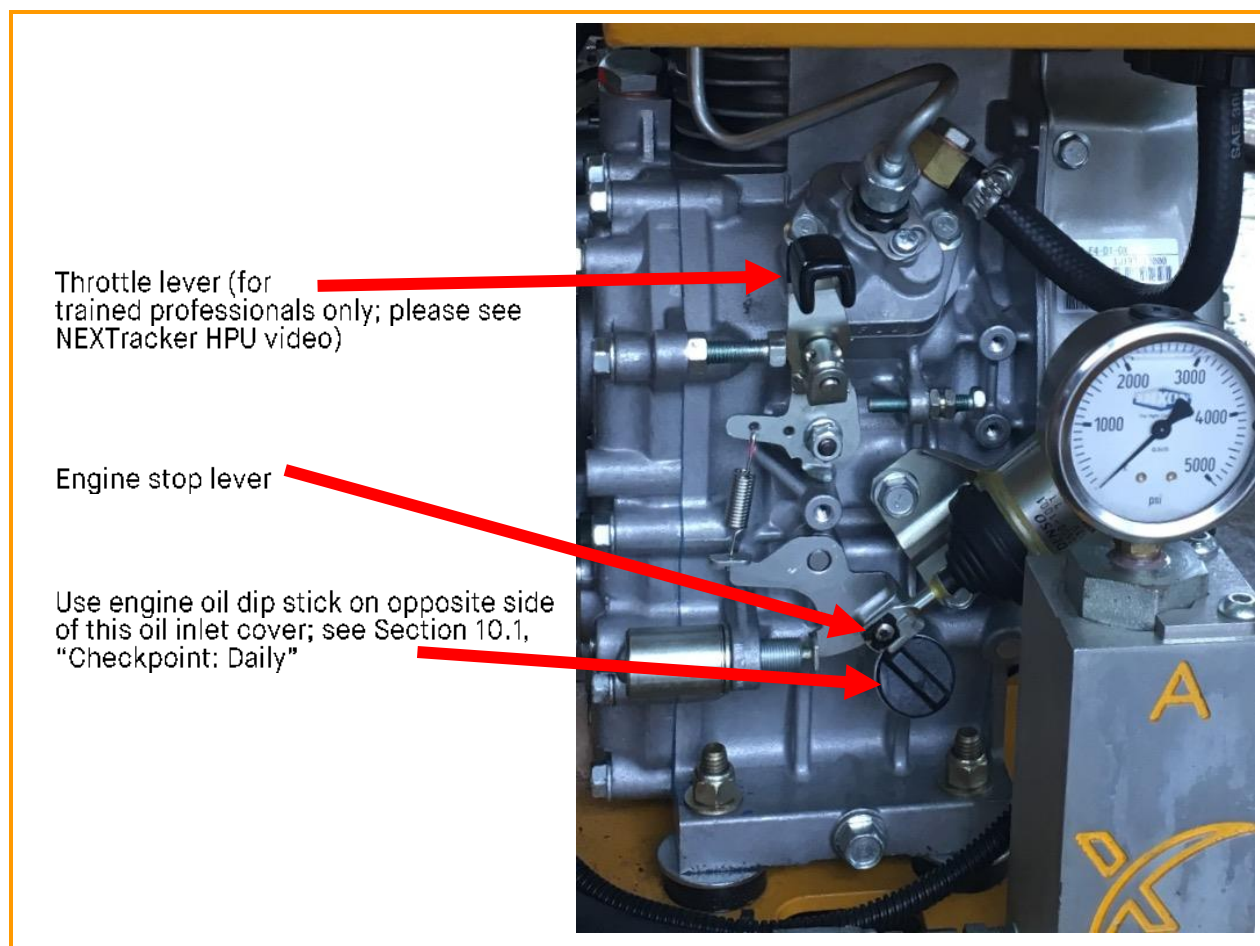

Figure 6-1. Starting the HPU.
- Insure the throttle lever (see Figure 6-1) is in the idle position.
- Before shutting down the HPU (using the engine stop lever shown in Figure 6-1), allow the engine to run at idle for 5 minutes to cool down.